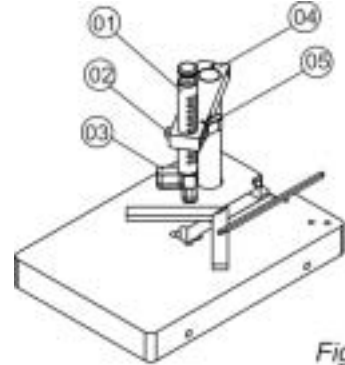

Fig. 10
Remove the screw fig. 10 (02), and press the button (05). Insert the bracket (01) into the upper support (04). Release the button (05) and insert the screw (02). So, insert the pressure pad (03) in the bracket (01).